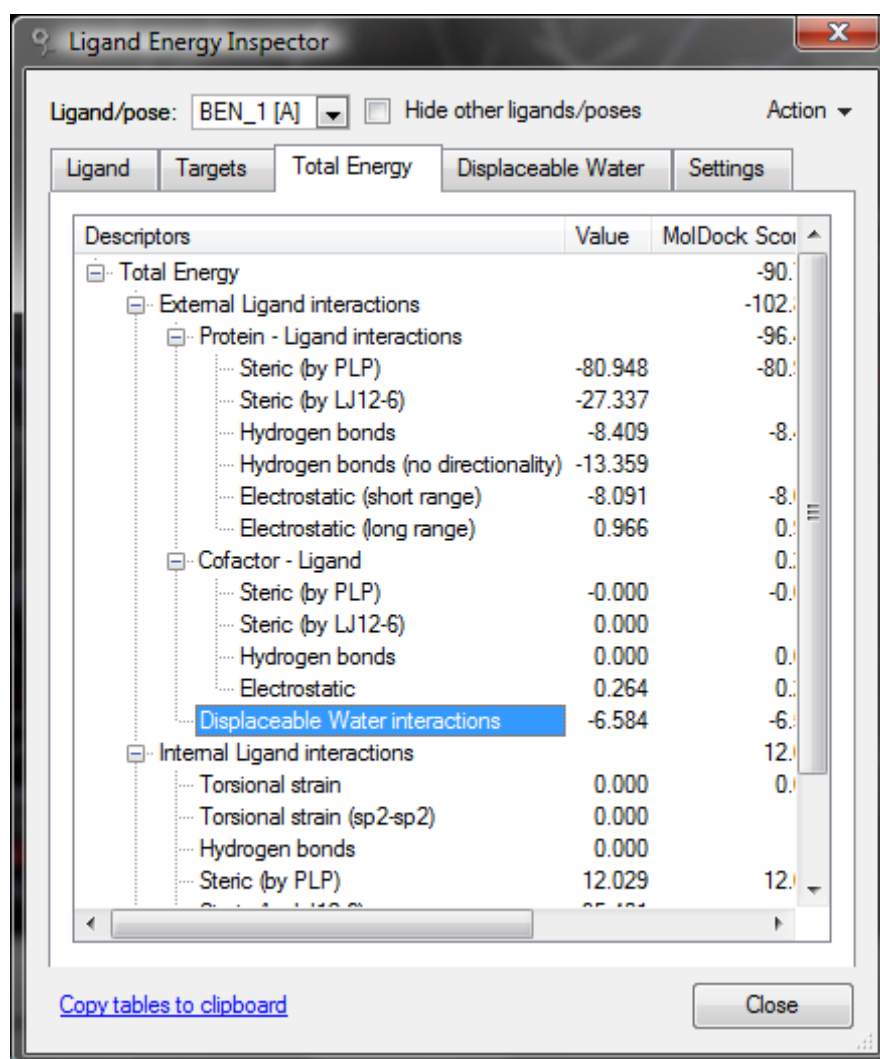

Figure 93: Energy contributions from various terms including the Displaceable Water Interactions.
**Displaceable Water interactions**, is also shown in the Energy Total tab (see Figure 93).